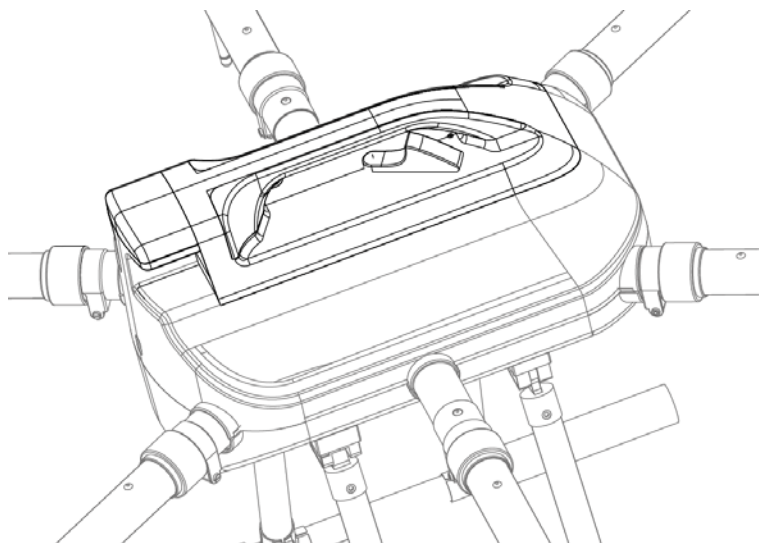

Figure 3-14
Step 2 Put the battery into battery compartment horizontally, as shown in Figure 3-14.